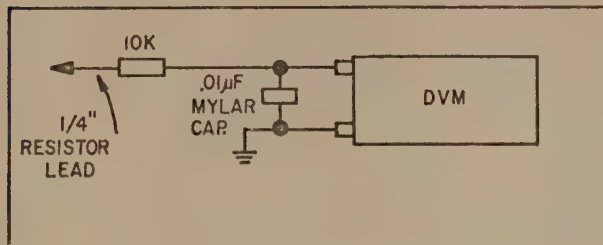

Figure 5-2. DVM Input Circuit
- a. Apply a 50 MHz, 200 μ W signal to input. Connect DVM to TP9. Use DVM input circuit shown in figure 5-2 for this, and all other DC signal level measurements called for in the remainder of this procedure. Measure and record voltage at TP9.